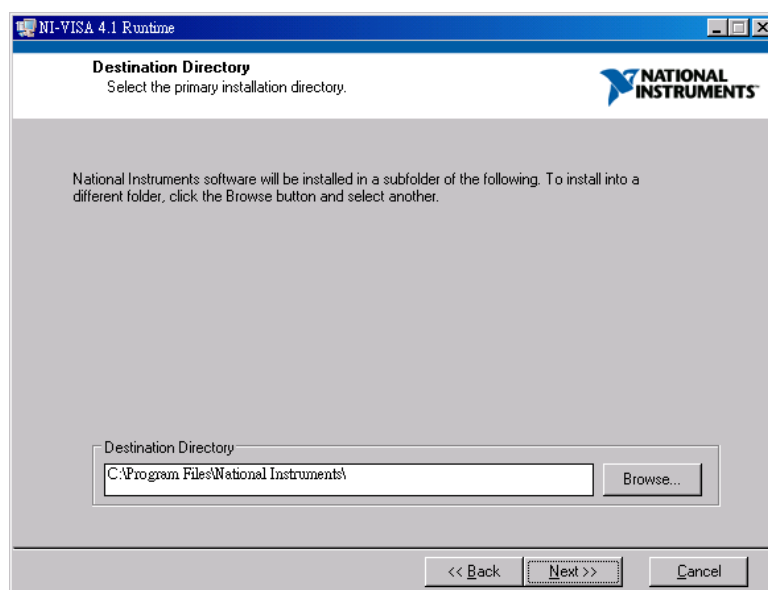

Figure 1-6 Determining the Installation Path
2. It is suggested to end the other running applications first, and then click **Next >>** to start the installation. It will enter into the next installation procedure and ask the user for installation path as Figure 1-6 shows.